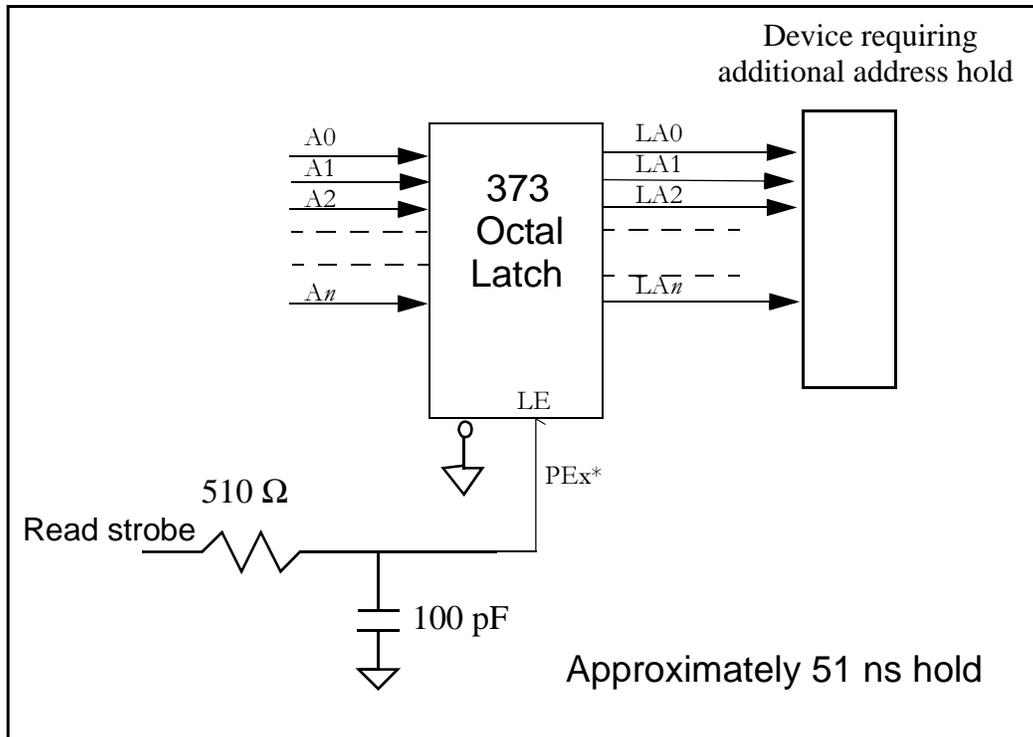

Figure 2. Address Hold Using a Transparent Latch
- If a longer address hold time is required, a transparent latch with a delayed strobe can be used. In this case it is important not to hold the address for such a long time that it is not correctly updated before the next write strobe. Such an error could result in writing to the wrong address (but only in level-triggered devices, such as memories). The fastest that a write strobe can follow the end of a read strobe is about 6 clocks, for example, with the instructions **IOE LD A, (HL)** followed by **IOE LD (HL), B**. A more likely error is that the transparent latch would not freeze its output before the end of the cycle, but this can be prevented by using wait states. If 7 wait states are selected, the enable delay for the transparent latch can be as long as about 5 clocks without bad effects. This is at least 100 ns even on a Rabbit 3000 running at 50 MHz. Figure 2 shows a circuit that should provide at least 25 ns of address hold time, but never as much as 100 ns.